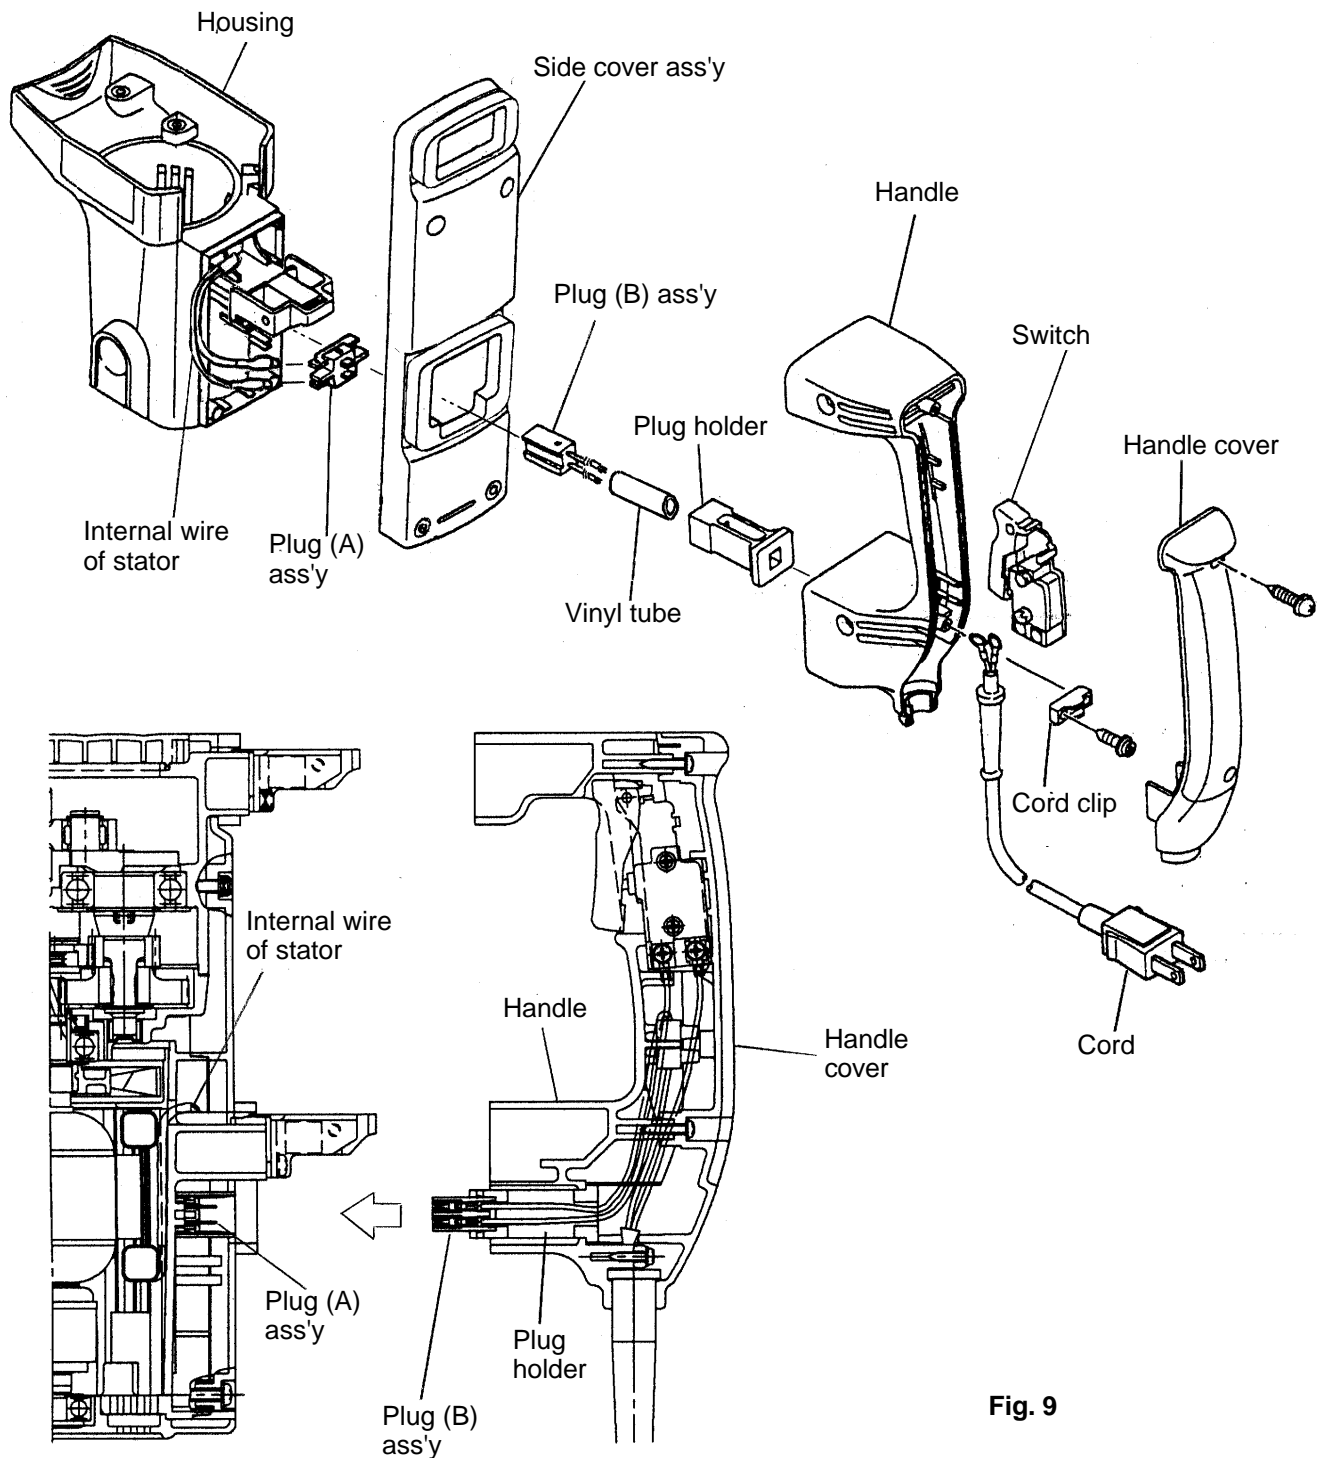

Fig. 9
The wiring connections are shown in Fig. 9. The Model DH 45SA adopts a plug-in module type wiring system consisting of plug (A) ass'y and plug (B) ass'y. The plug (A) ass'y connected with the internal wires of the stator is fitted into the housing. The plug (B) ass'y is fitted into the handle section through the plug holder and is connected with the switch terminal and cord. Wiring connection is completed when the housing section, the handle and handle cover section are all assembled and then fastened together with screws. With such a wiring structure, assembling and disassembling procedures associated with wiring connection have been largely simplified over previous models.